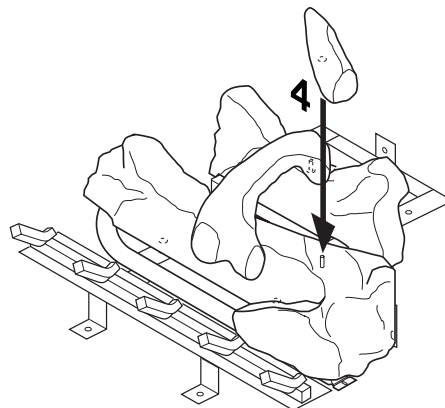

Figure 47 - Installing Log No. 4
- Place log #4 (right log) on the pin on the right side of front log as shown in Figure 47.